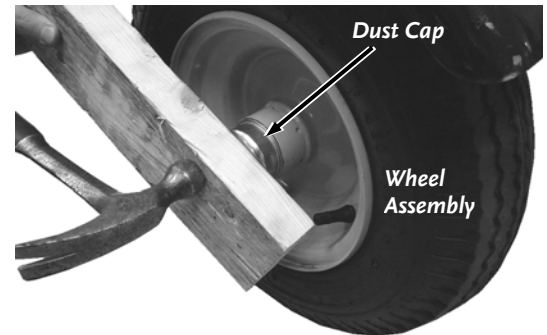

Figure 63
9. Place the Dust Cap onto the Wheel Assembly and secure it by placing a piece of wood over it and pounding lightly with a hammer until it is against the lip (**Figure 63**).